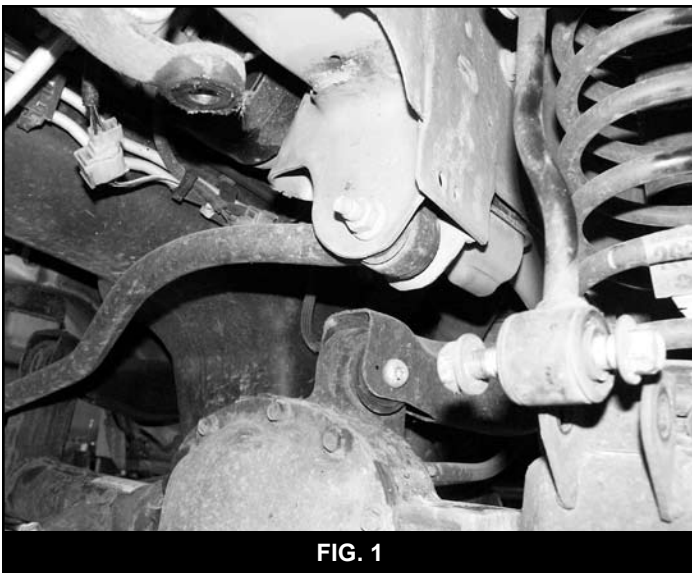

FIG. 1
4. Support the front axle with a hydraulic jack and disconnect the front track bar from the driver's side frame mount (Fig 1). Retain hardware.